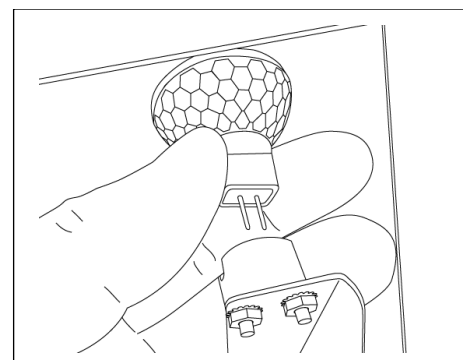

Figure 6-3
5. While wearing gloves, gently pull the light bulb out of its fixture (Figure 6-3).